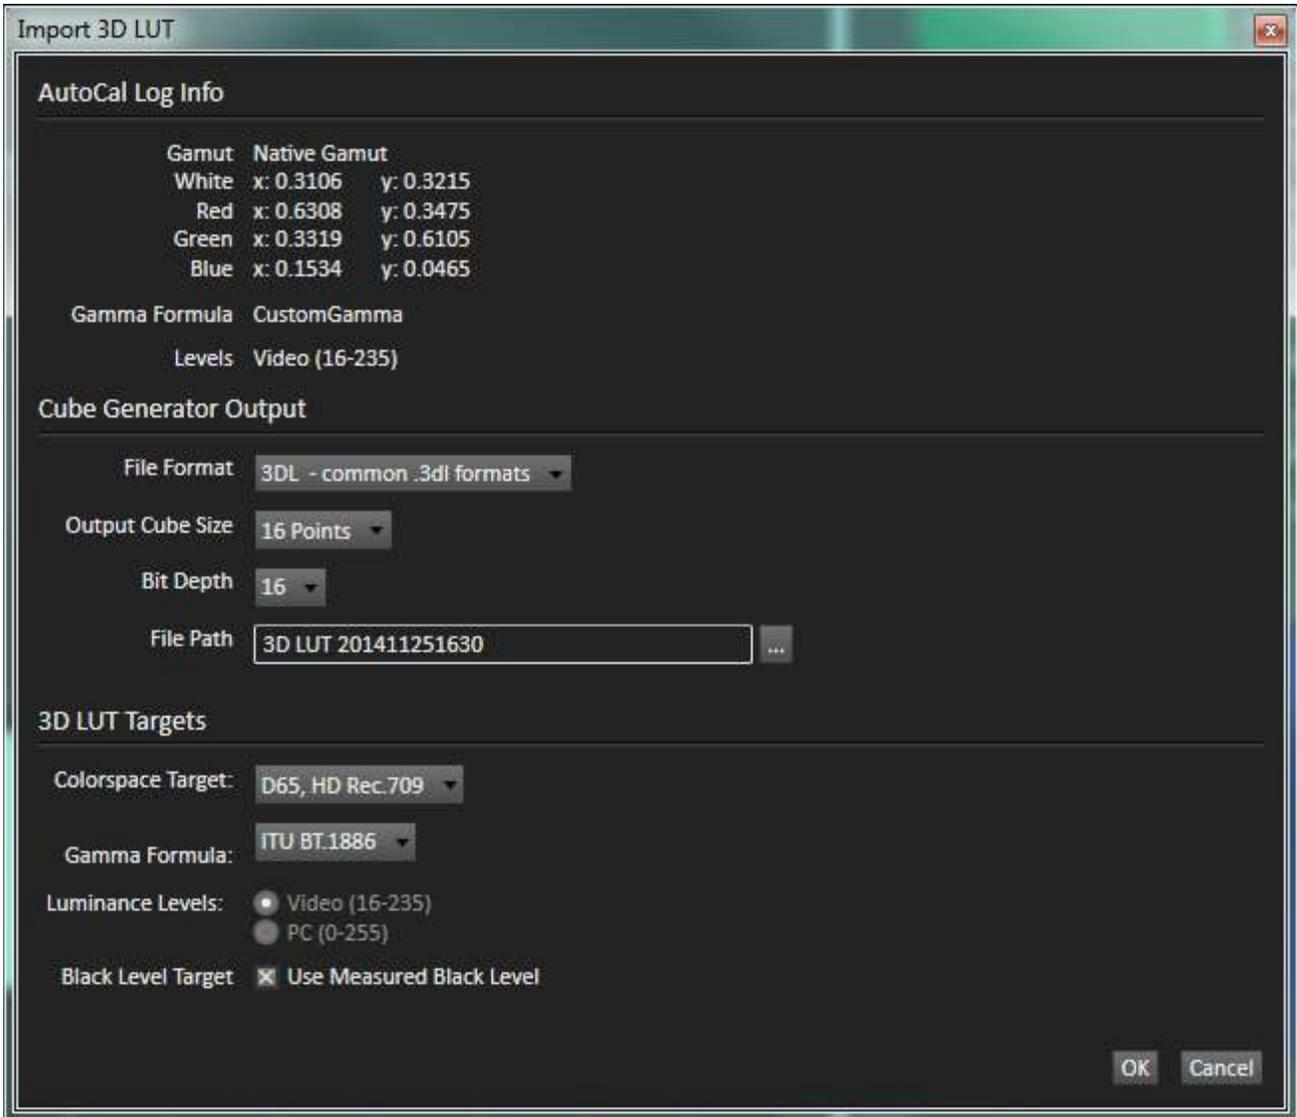

Figure 6: On the Import 3D LUT dialog, select the desired colorspace and gamma targets for your new 3D LUT.
3. On the Import 3D LUT dialog that opens (figure 6), select the desired colorspace and gamma targets for your new 3D LUT.